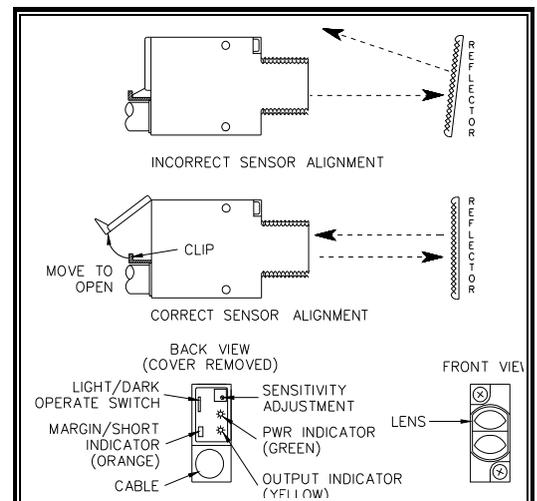

Figure 15 ALLEN BRADLEY
4. If the label was applied too close the leading edge of the product (early), either reposition the product detector further downstream or increase the LABEL ON PRODUCT POSITION setting. Refer to Figure 15.
If the label was applied too far from the leading edge of the product (late), reposition the product detector further upstream. Refer to Figure 15.